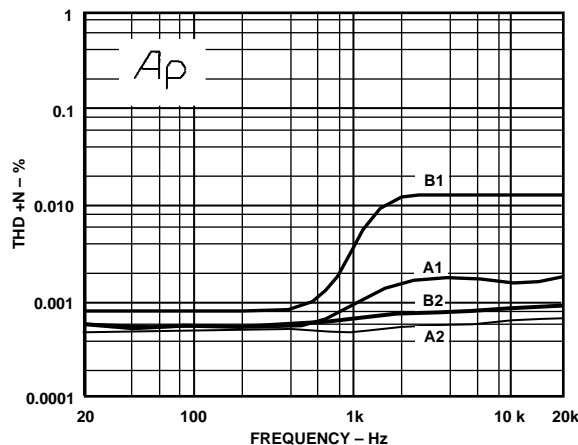

Figure 46. THD + N (%) vs. Frequency for Various 1 kHz HP Active Filters Illustrating the Effects of the Z_{COMP} Network
A more subtle form of ac degradation is also possible in these filters, namely nonlinear input capacitance modulation. This issue was previously covered for general cases in the section on minimizing distortion. In active filter circuits, a fully compensating network (for both dc and ac performance) can be used to minimize this distortion. To be most effective, this network (Z_{COMP}) should include R1 through C2 as noted for either filter type, of the same style and value as their counterparts in the forward path. The effects of a Z_{COMP} network on the THD + N performance of two 1 kHz HP filters is illustrated in Figure 46. One filter (A) is the example shown in Figure 44a (Curves A1 and A2), while the second (B) uses RC values scaled 10 times upward in impedance (Curves B1 and B2). Both filters operate with a 2 V rms input, ± 18 V supplies, 100 k Ω loading, and analyzer bandwidth of 80 kHz.